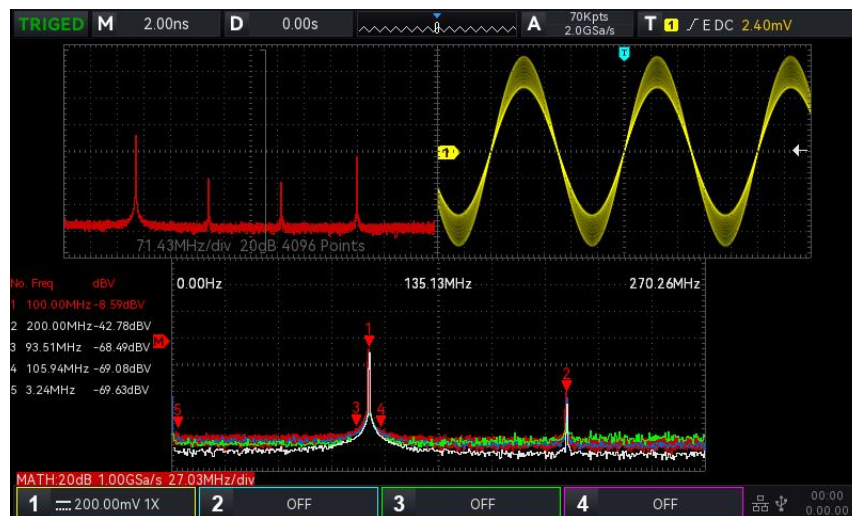

Figure 17-1
- a. Split screen: Display the source waveform and the FFT spectrum waveform in split screen, and extend to display the spectrum, as shown in Figure 17-1.